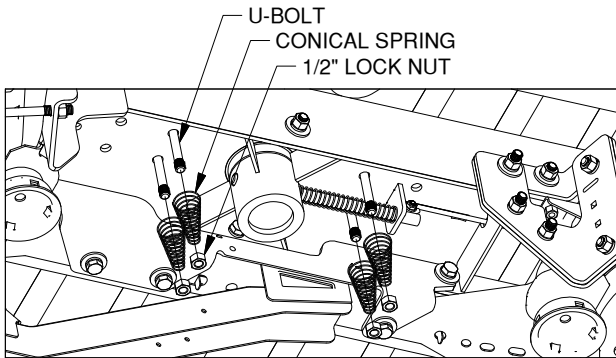

Figure G2: View under the bed looking back at the rear of the truck. (Exhaust not shown)
3. **Add springs.** Place a conical spring over each leg of the U-bolts and secure with a 1/2" lock nut, see Figure G2. Tighten the lock nut until the nut is flush with the end of the U-bolt.